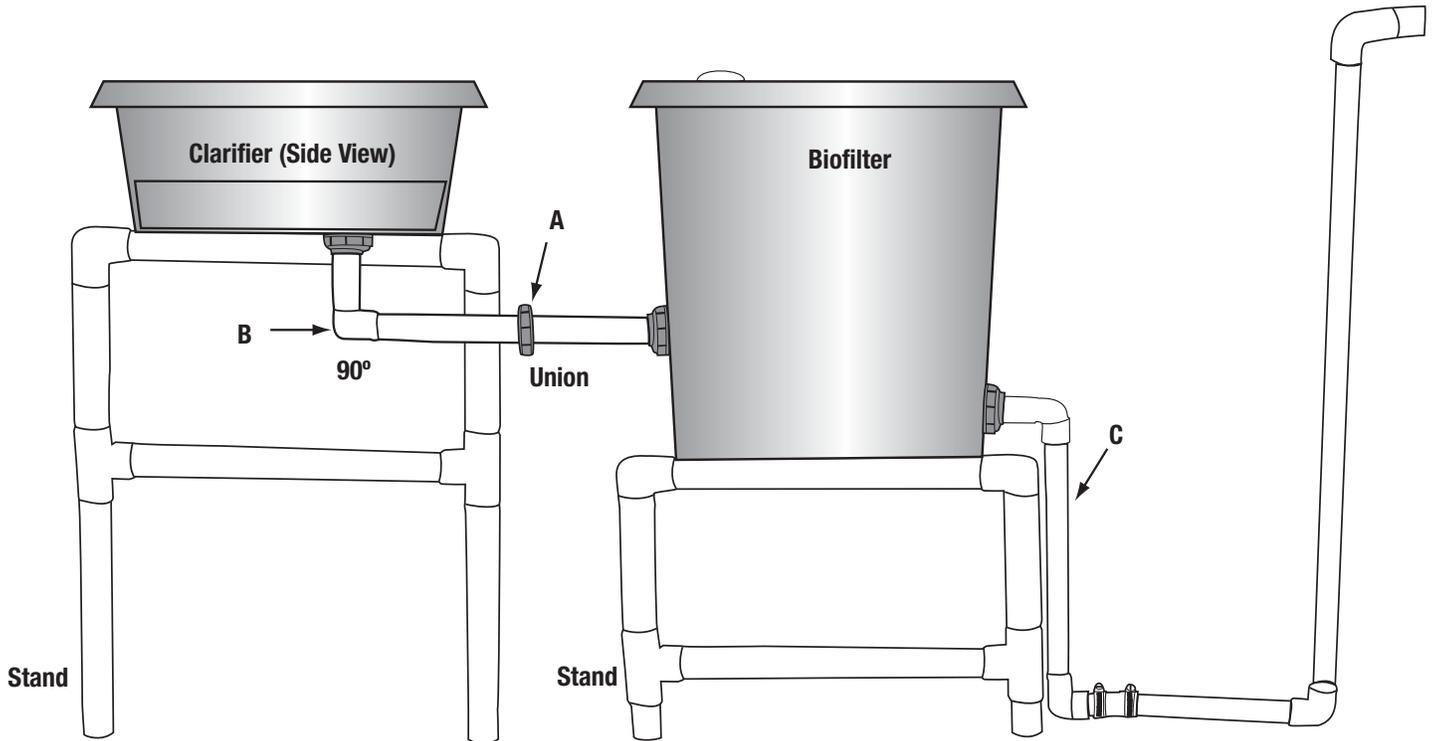

Fig. 3
- D. **Biofilter:** The majority of the biofilter comes preassembled. Connect the biofilter to the clarifier by screwing in the true union (A on Fig. 3) which is already assembled to the biofilter tank and the 90° elbow (B) coming off of the clarifier. This will position the biofilter so that the discharge (C) from the biofilter will be facing tank at a right angle, as airlift will be attached to it.